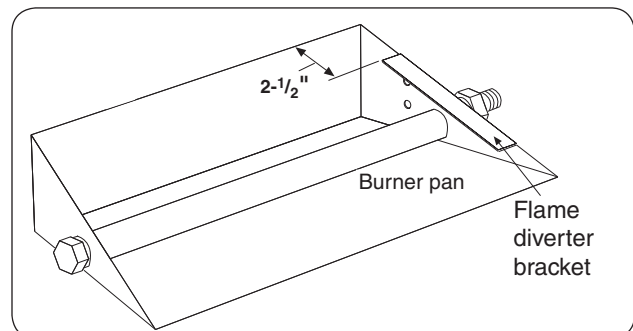

Fig. 4-3
1. Place the flame diverter bracket over the side edge of the burner pan, near the location the safety control system pilot bracket will be attached. It should be placed **approximately 2-1/2"** from the rear wall of the burner pan (see Fig. 4-3).